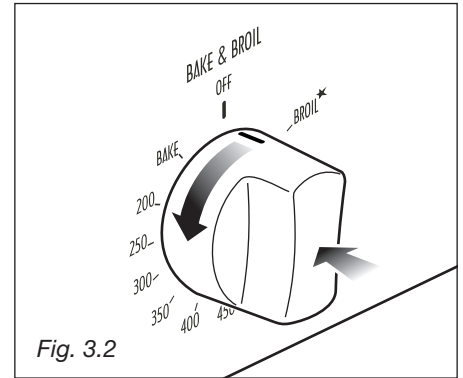

Fig. 3.2
2) Press the oven control knob right down and, keeping it pressed, turn counter-clockwise (fig. 3.2) to max position **550***.